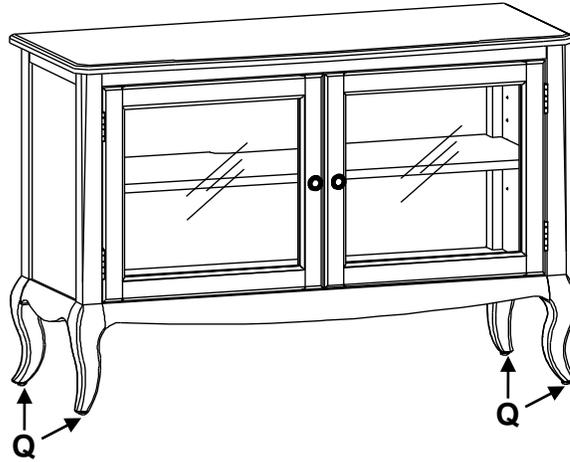

Fig. 1
1. Place the unit at its final destination. Rotate the Adjustable Glides (Q) on the bottoms of the legs until the unit is level. See Figure 1.